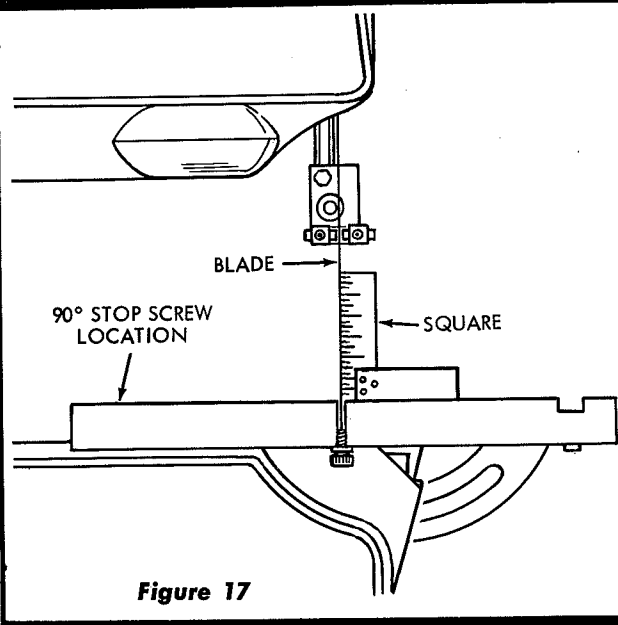

Figure 17
- c. Place the square on the table and touching the blade as shown in figure 17.
- d. Using a 5/32-inch hex-L wrench rotate the 90° stop screw, accessible through the hole in table top, until the table is square with the blade. (See figure 17.) Do not force the square against the blade enough to deflect it.
**NOTE:** Normally, aligning the platen with the taut sanding belt will square the platen to saw table with accuracy sufficient for most sanding operations. If greater accuracy is required, use a square positioned as shown in figure 17. Do not change the table adjustment — adjust the platen only.